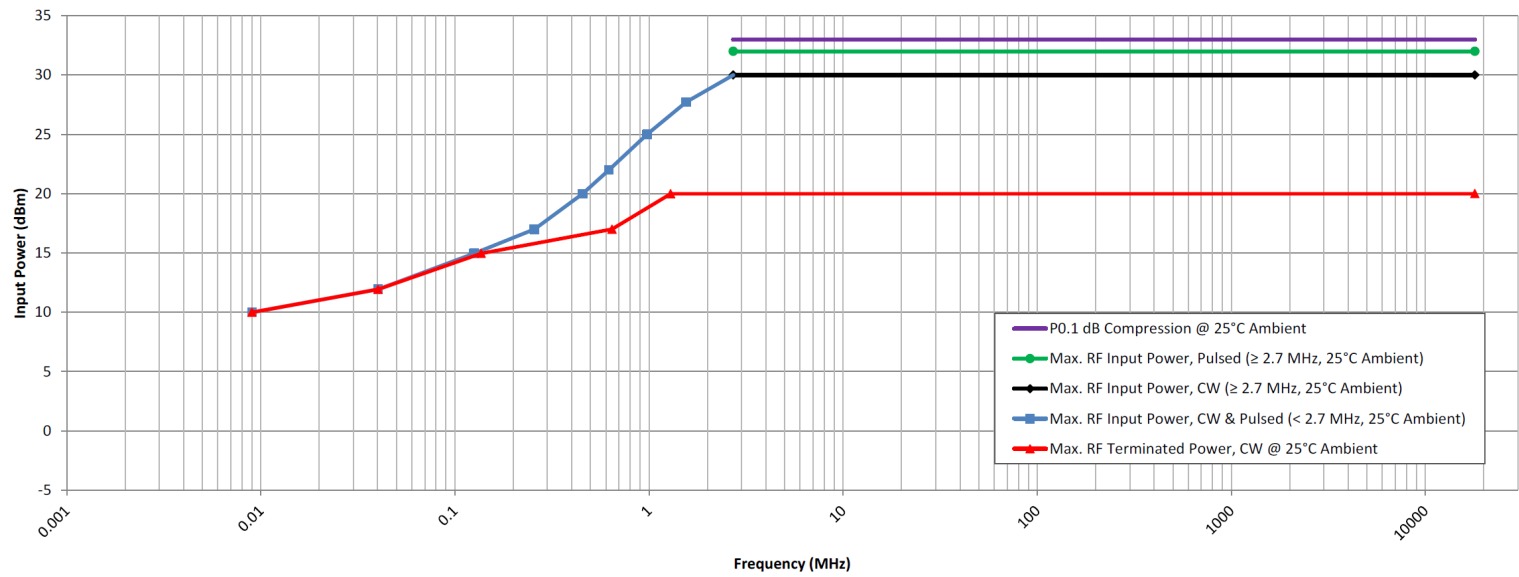

Figure 2. Power derating curve for 9 kHz–18 GHz at 25°C ambient (50Ω)
| RF input power, CW (RFC–RFx) (3)9 kHz–2.9 MHz≥ 2.9 MHz–18 GHz                   | $P_{MAX,CW}$     | –    | See Figure 233 | dBm  |
| RF input power, pulsed (RFC–RFx) (4)9 kHz–2.9 MHz≥ 2.9 MHz–18 GHz               | $P_{MAX,PULSED}$ | –    | See Figure 234 | dBm  |
| RF input power into terminated ports, CW (RFx) (3)9 kHz–1.4 MHz≥ 1.4 MHz–18 GHz | $P_{MAX,TERM}$   | –    | See Figure 222 | dBm  |
| RF input power, CW (RFC–RFx) (3)9 kHz–2.9 MHz$\geq 2.9$ MHz–18 GHz                                                                                                                                                                                                                                                                                     | $P_{MAX,CW}$     | –    | –   | See Figure 230 | dBm     |
| RF input power, pulsed (RFC–RFx) (4)9 kHz–2.9 MHz$\geq 2.9$ MHz–18 GHz                                                                                                                                                                                                                                                                                 | $P_{MAX,PULSED}$ | –    | –   | See Figure 232 | dBm     |
| RF input power into terminated ports, CW (RFx) (3)9 kHz–1.4 MHz$\geq 1.4$ MHz–18 GHz                                                                                                                                                                                                                                                                   | $P_{MAX,TERM}$   | –    | –   | See Figure 220 | dBm     |
| Input 0.1 dB compression point (3) | RFC–RFx | –                                                                                                                       | –                                      | See <a href="#">Figure 2</a>                         | –                                                    | dBm  |
The PE42542 maximum hot switching capability is  $20$  dBm from  $1.4$  MHz to  $18$  GHz. The maximum hot switching capability below  $1.4$  MHz does not exceed the maximum RF CW terminated power shown in Figure 2. Hot switching occurs when RF power is applied while switching between the RF ports.